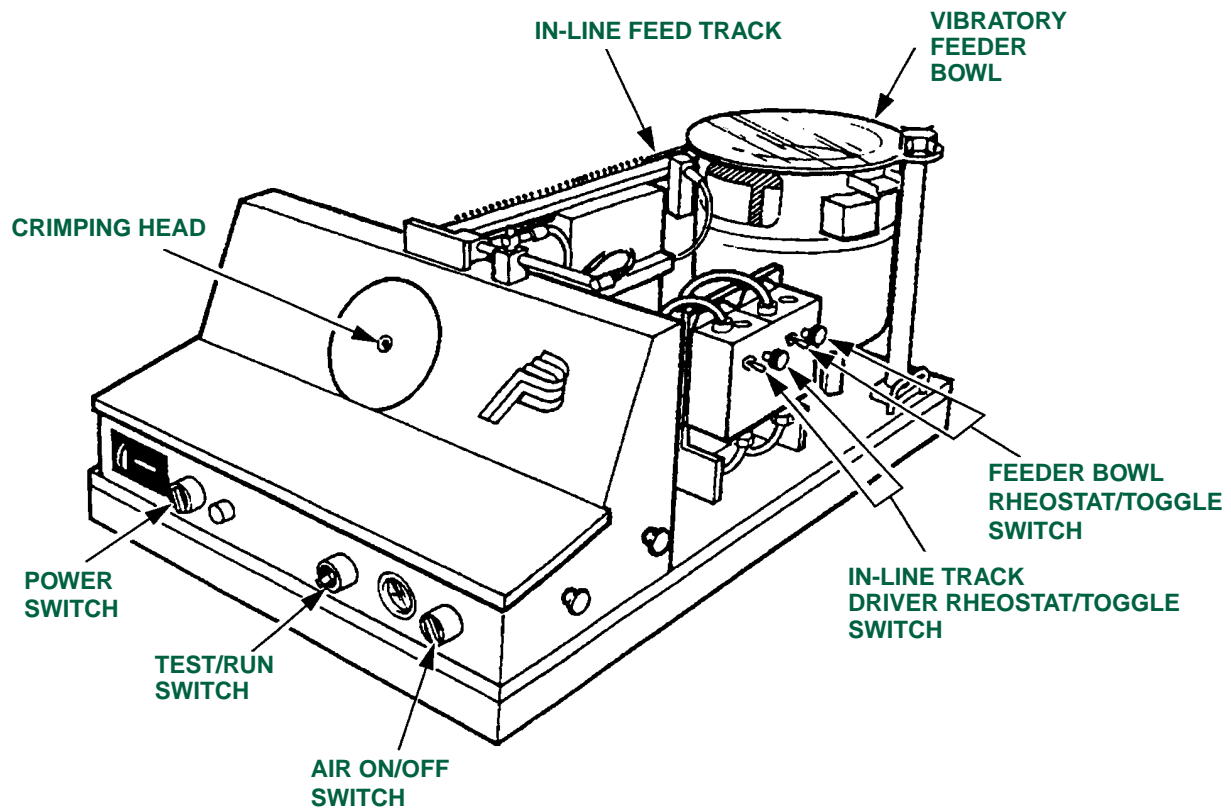

FIGURE 2 - PICO MODEL 600 AUTOMATIC FEED CRIMPING MACHINE
| FIGURE 2 - PICO MODEL 600 AUTOMATIC FEED CRIMPING MACHINE | 9 |
5.5.1 Set-up and operate Pico Automatic feed crimping machines as follows (see Figure 2):